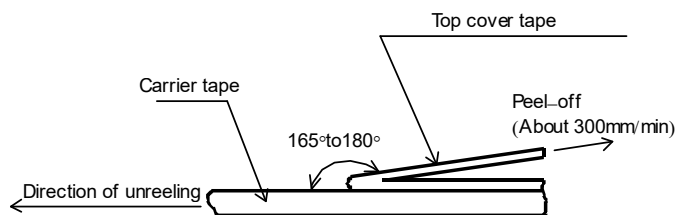
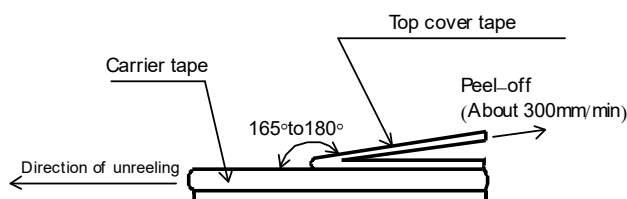
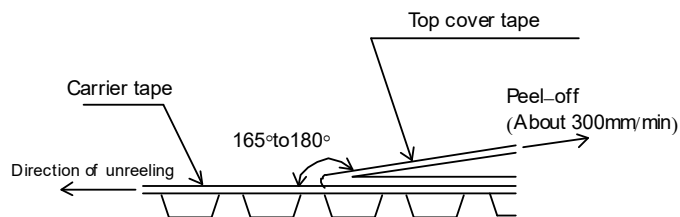

Figure-8
Figure-9
Figure-10
- 5). The peel strength of the top cover tape shall be within 0.1N to 0.5N on the test method as shown in the following RMPC04,06: Figure-8, RMPC10,16,20,32: Figure-9, RMPC35: Figure-10.